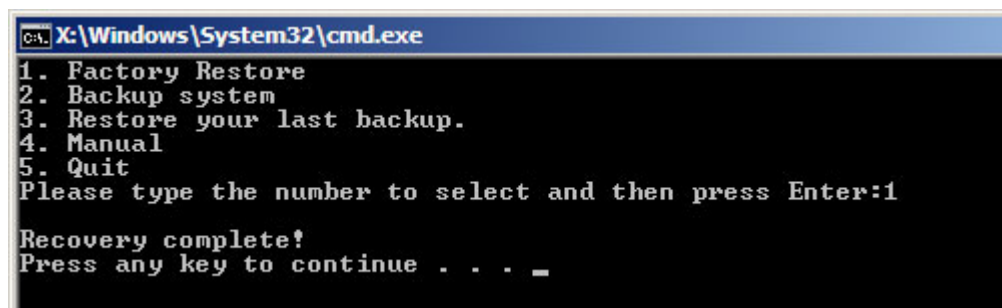

Figure B-36: Recovery Complete Window
**Step 3:** The screen shown in **Figure B-36** appears when completed. Press any key to reboot the system.